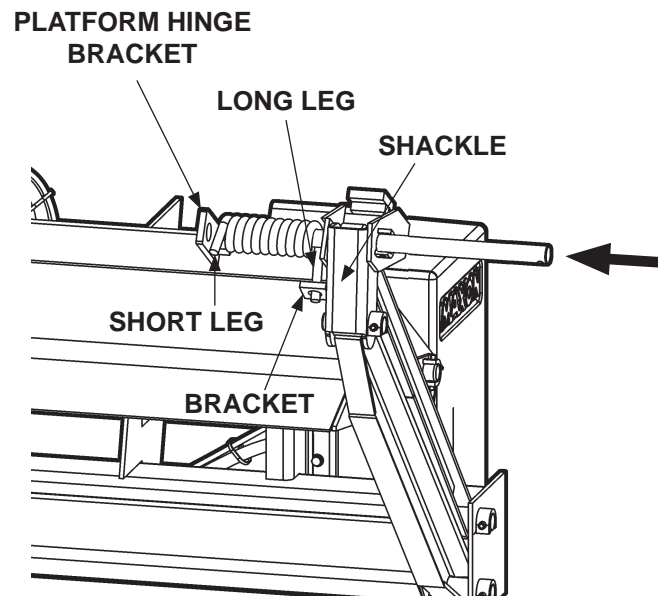

FIG. 18-2
4. Install the torsion spring as shown in **FIG. 18-2**. Make sure the long leg of the spring is inserted in the bracket located on the shackle. Make sure the short end of the spring is visible, as shown in **FIG. 18-2**.